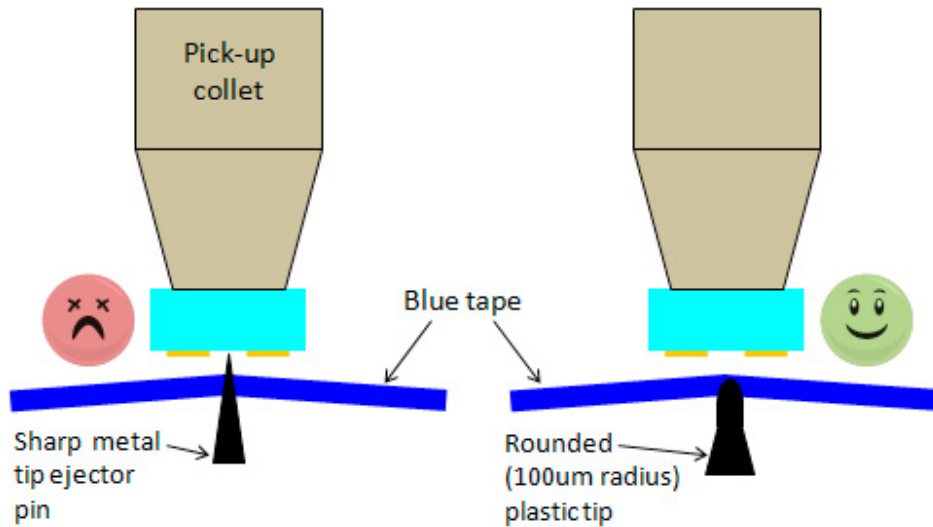

Figure 26. Sharp ejector pin tip will damage the LUXEON FlipChip (left). A rounded plastic tip minimizes damage caused by ejector pin (right).
2. Die attach ejector pin selection. The bottom of LUXEON FlipChip is the epitaxial material where the p-n junction is located. It is not mechanically protected and can be damaged if a sharp and hard ejector pin material is used (Figure 26). Philips recommends an ejector pin with a plastic tip radius of 100 μ m to minimize the risk of mechanical damage. An example of a plastic tip ejector pin is made by Micro-Mechanics (www.micro-mechanics.com), part number SEN5-T07-170-010-20 which was successfully used by Lumileds.